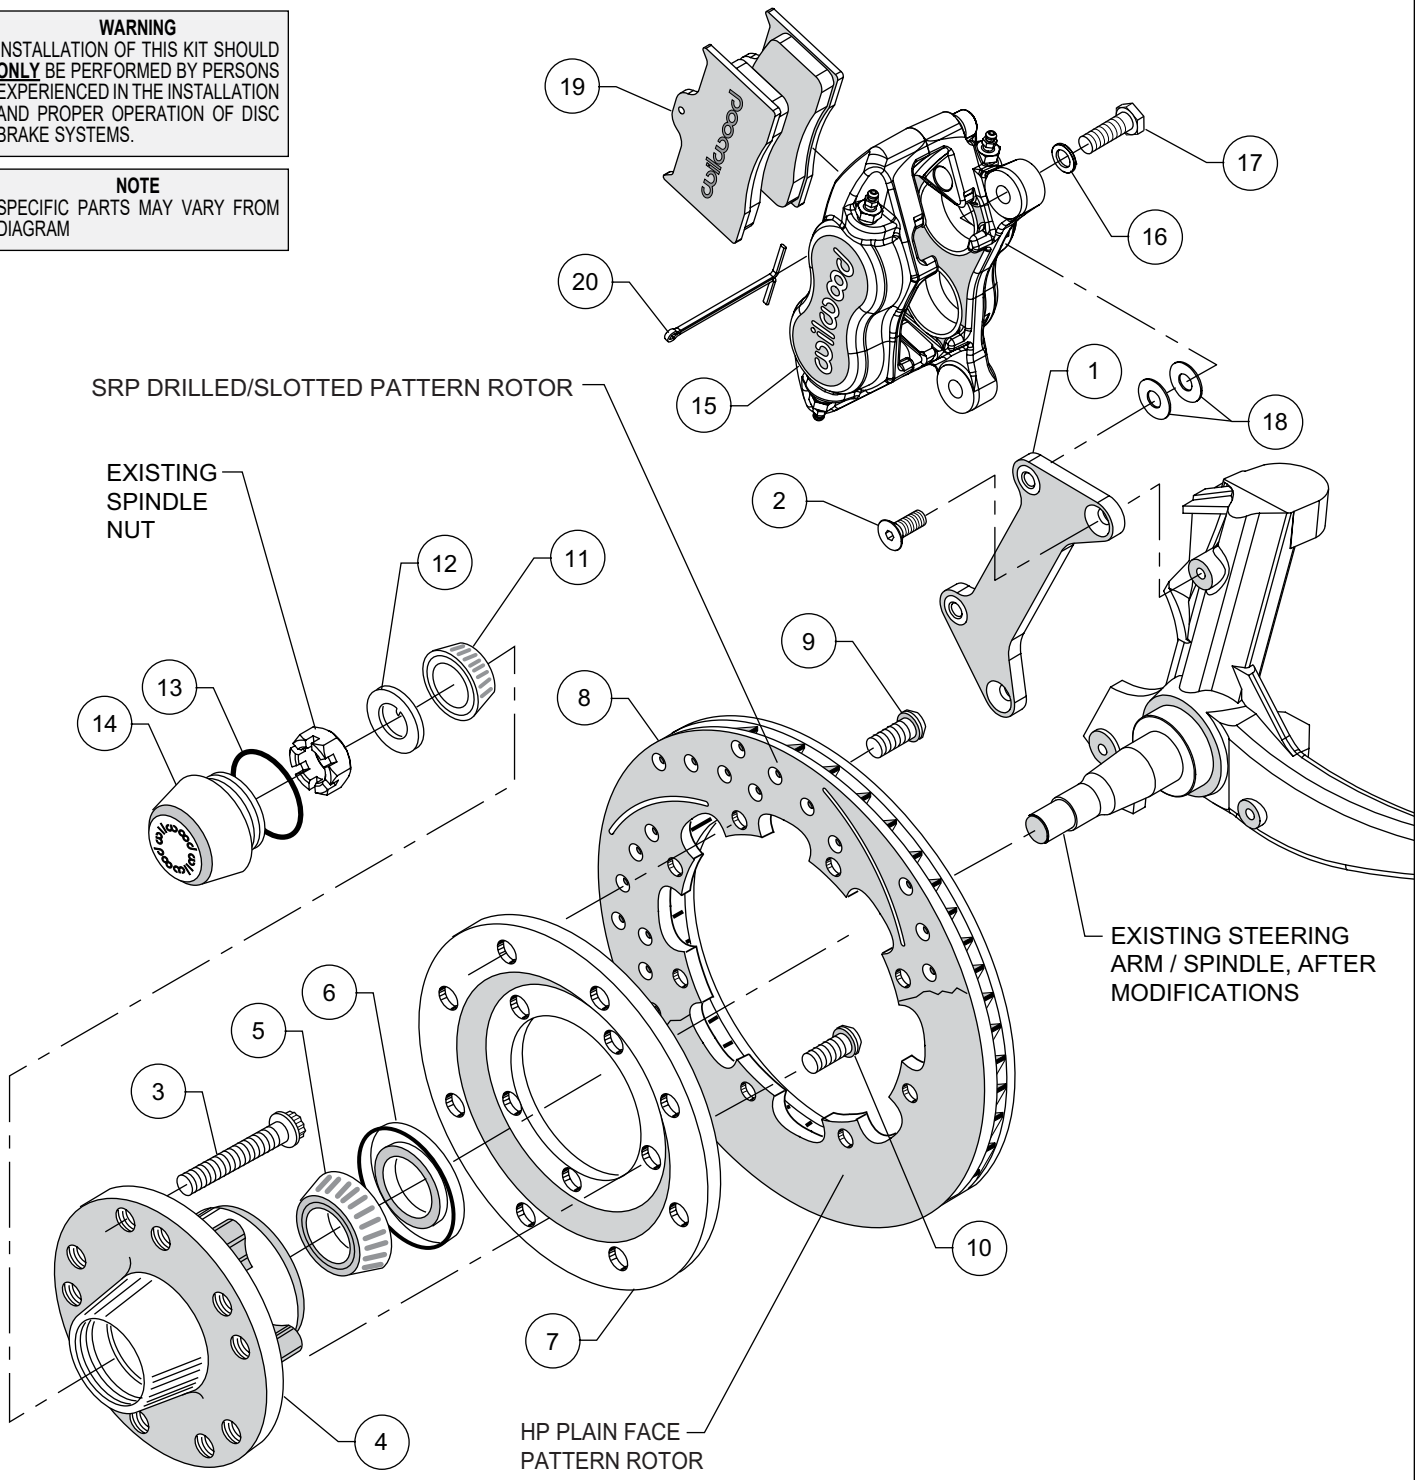
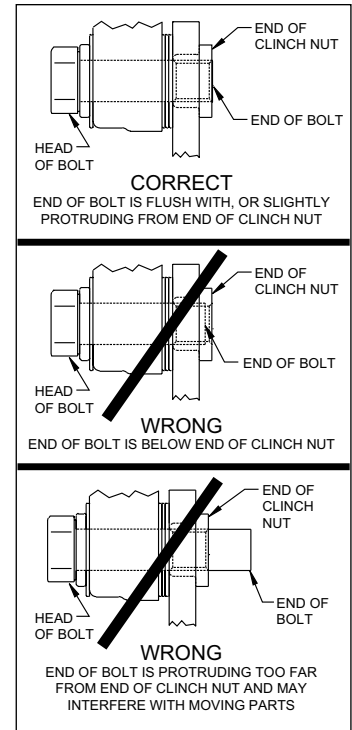

Figure 2. Typical Installation Configuration
Figure 4. Clinch Nut Engagement Diagram
•**CAUTION:** All mounting bolts must fully engage clinch nuts. Be sure to check that all bolts are either flush or protruding through flanged side of clinch nut after shimming, Figure 4.
•Align caliper mounting bracket (1) with the corresponding holes, to the face of the spindle. Attach using bolts (2) as shown in Figure 2 and Photo 1. Temporarily tighten the mounting bolts. Ensure that the flanged heads of the clinch nuts in the bracket are facing outboard, Photo 1. **NOTE:** The bracket must fit squarely against the mounting points on the spindle. Inspect for interference from casting irregularities, machining ridges, burrs, etc. Remove bolts one at a time, apply red *Loctite*® 271 to threads and torque to 40 ft-lbs.
- Orient the rotor (8) and the rotor adapter (7) as shown in Figure 2 and Photo 4. Attach the rotor to the adapter using bolts (9). Using an alternating sequence, apply red *Loctite*® 271 to the threads, and torque to 25 ft-lb.
- Mount the adapter/rotor assembly (7/8) to the hub (4) using bolts (10), as shown in Figure 2 and Photo 5. Using an alternating sequence, apply red *Loctite*® 271 to the threads, and torque to 45 ft-lb.
- NOTE:** *Please reference the caution statement at the beginning of the assembly instructions.* Mount the caliper (15) onto the caliper mounting bracket (1) using bolts (17) and washers (16), as shown in Figure 2. Initially place two .035" thick shims (18) on each bolt between the caliper and the bracket, Photo 8. Temporarily tighten the mounting bolts and view the rotor (8) through the top opening of the caliper. The rotor should be centered in the caliper, Photo 9. If not, adjust by adding or subtracting shims between the bracket and the caliper. Always use the same amount of shims on each of the two mounting bolts. **NOTE:** *The end of each bolt must be flush with or slightly protruding from the head of the clinch nut, as shown in Figure 4.* If necessary place spare shims between washer (16) and caliper mounting ear to achieve the proper clinch nut engagement. Once the caliper alignment and clinch nut engagement are correct, remove the bolts one at a time, apply red *Loctite*® 271 to bolt threads, and torque to 40 ft-lb.